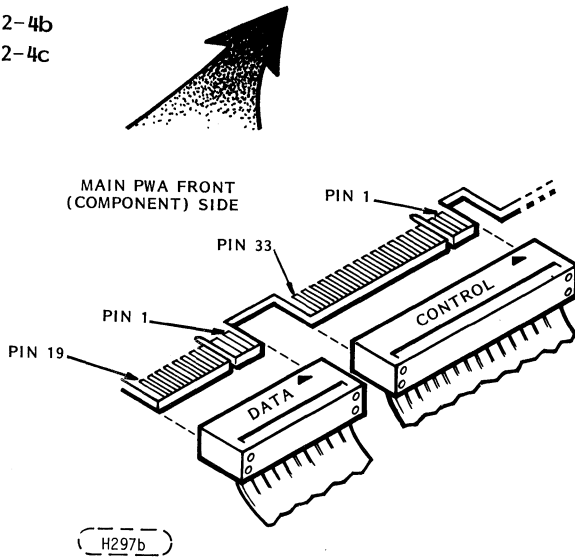

FIGURE 2-4a. I/O CONNECTION, TERMINATORS AND OPTION/DEVICE ID HEADERS
The WREN III receives DC power through a 4 pin right angle connector mounted on the Main PWA (see Figure 2-4a). Recommended part numbers for the mating connector are listed, but equivalent parts may be used.
Figure 2-4a shows the Data Cable Connector of the WREN. Recommended part number for the mating connector is listed, but equivalent parts may be used.
The connector for the control cable is a 34 Pin Board Edge Connector. The odd pins are on the component side of the PWA and are connected to the ground plane. A keying slot is located between pins 4 and 5. The control cable connector is shown in Figure 2-4a. Recommended part number for the mating connector is listed, but equivalent parts may be used.
The logical address of the WREN is selected by installing a jumper in the appropriate location on the DRIVE SELECT header, which is accessible from the back of the drive, located on the Main PWA (see Figure 2-4a or 2-4b). This selection is done at the time of installation.
Every drive connected in a radial configuration needs a termination resistor pack (as supplied). Termination resistor packs should be removed from all daisychain drives except the drive in the last position of the daisychain. The terminator resistor pack is a SIP (Single Inline Package) resistor module plugged into a SIP socket on the Main PWA, accessible on the Main PWA behind the control cable connector. See Figure 2-4a. Drives may be ordered with or without terminator resistor pack installed. An equivalent terminator must be provided in the Host Adapter/Initiator on each input signal line from the WREN to the Adapter/Initiator.
- (*2) See Figure 2-4a for location.